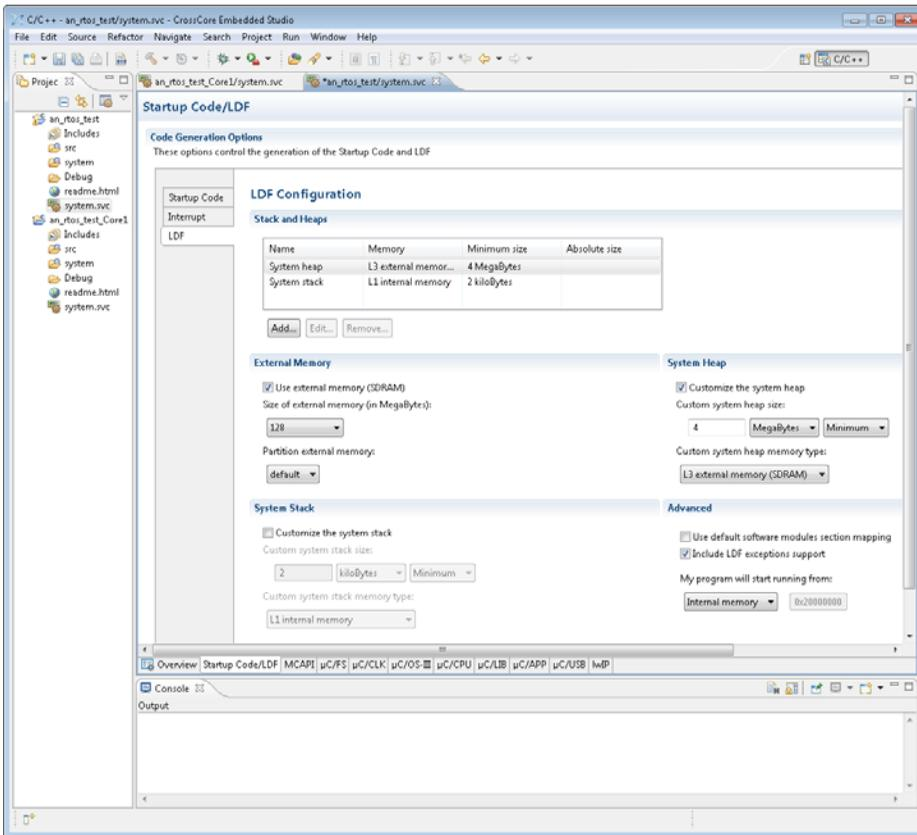

Figure 3-1. Heap Configuration
- d. Click LDF to open the LDF Configuration page (Figure 3-1).